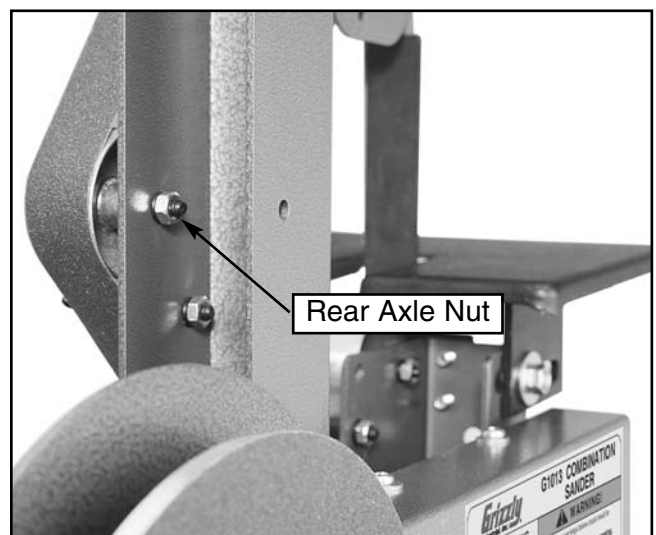

Figure 16. Adjusting rear axle.
3. Using a 10mm wrench, turn the rear axle nut. **See Figure 16.**